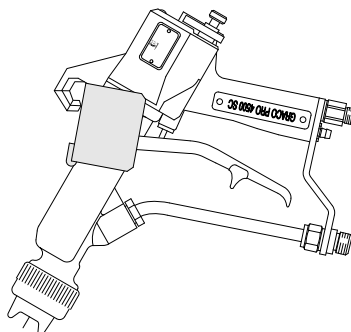

Fig. 6
- Hang the gun with its nozzle pointing down when it is not being used, as shown in Fig. 6.
8. Place the gun in its hanging bracket, with the nozzle pointing down as shown in Fig. 6, until it is used again.